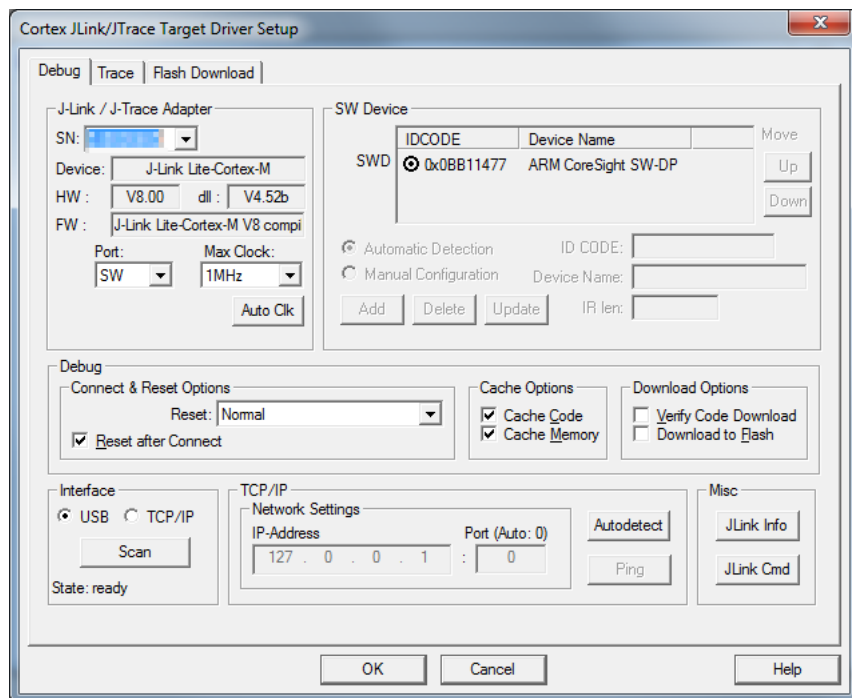

Figure 22 Target driver setup
8. In **Max Clock** the maximum speed for the debugging port cannot be exceeded (1 MHz). A proper configuration is shown in **Figure 22 on page 30**.